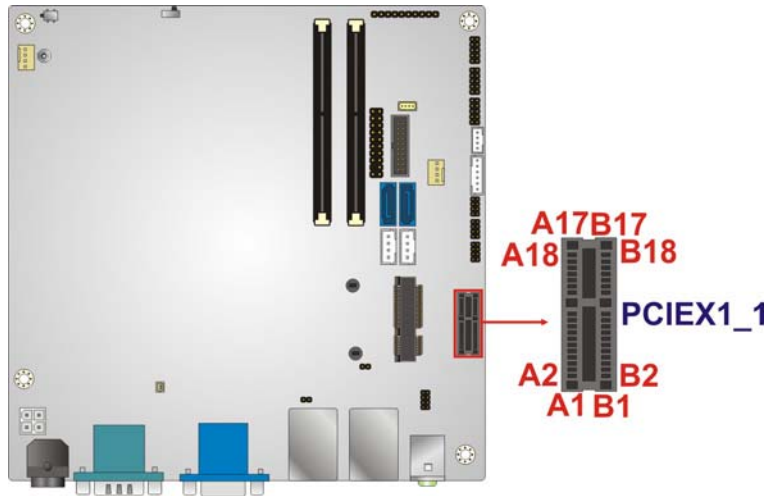

Figure 3-15: PCIe x1 Slot Location
- CN Location:** See **Figure 3-15**